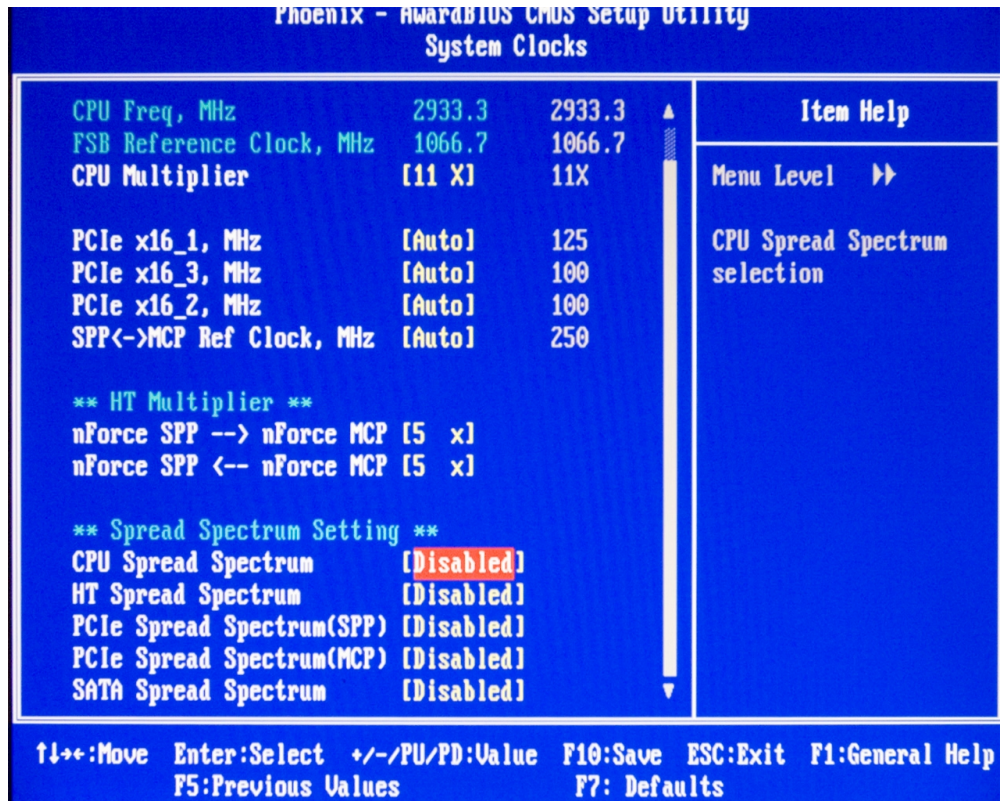

Figure 4. Disable Spread Spectrum
3. Set CPU Spread Spectrum to Disable as shown in Figure 4.
4. Set HT Spread Spectrum to Disable as shown in Figure 4.
5. Set PCIe Spread Spectrum(SPP) to Disable as shown in Figure 4.
6. Set PCIe Spread Spectrum(MCP) to Disable as shown in Figure4.
7. Set SATA Spread Spectrum to Disable as shown in Figure 4.